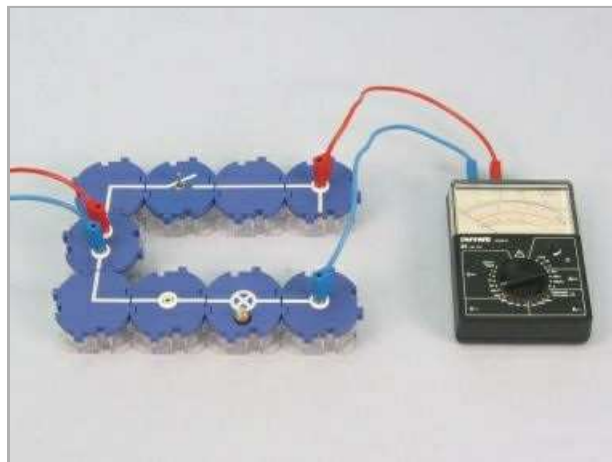

Fig. 7
- Now remove the connector module (Fig. 7). Measure voltage U and observe the lamp. Note the measured value and what you observe under (Observation 4) in the Report.